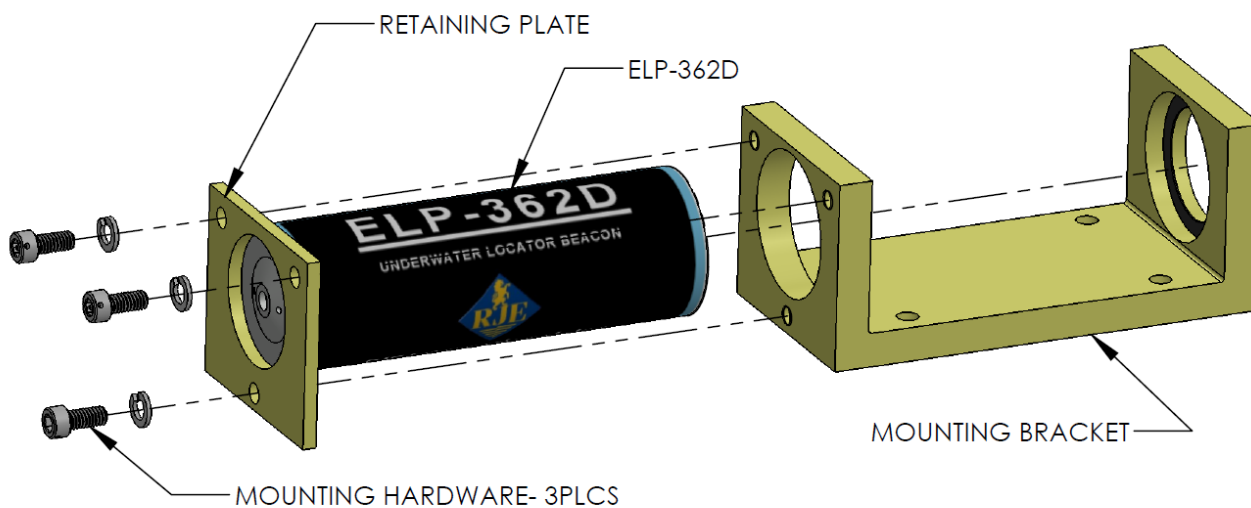

Figure 3-3 Installing the Beacon into the Mounting Bracket
Figure 3-3 Installing the Beacon into the Mounting Bracket	9
3. Slide the beacon into the bracket as shown in Figure 3-3. Rotate the beacon until the battery date is visible and secure it in place with the end plate and the three drilled socket head cap screws.